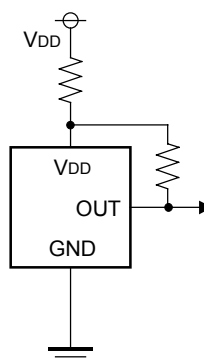

Figure 10
2. Wiring as shown in Figure 10 may cause the oscillation in both output types of R3113 Series.